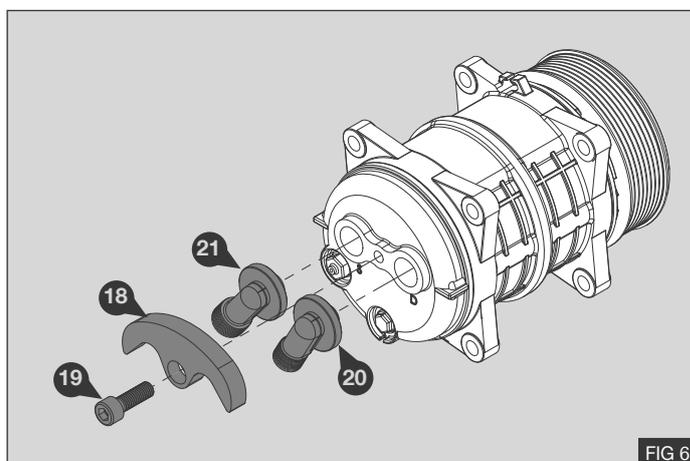

FIG 6
1. Fit the supplied compressor fittings ⑳ ㉑ and clamp in place with manifold clamp ⑲ and bolt ⑱ - Fig 6